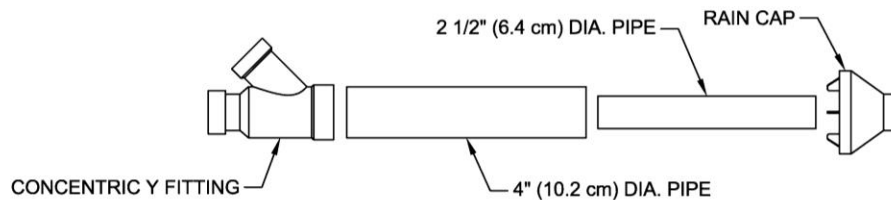
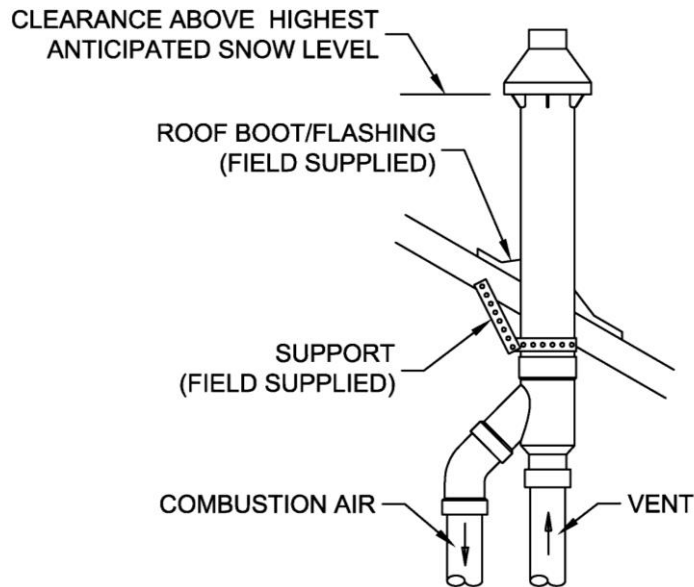

Figure 18. Concentric Vent Kit Part Identification
Figure 20. Concentric Vent Roof Top Attachment
- a. Cement concentric Y fitting to larger diameter pipe. (See Figure 18).
6. Secure assembly to roof structure as shown in Figure 20 using field-supplied metal strapping or equivalent support material.
Ensure termination height is above the roof surface or anticipated snow level. Figure 20.
8. Cement heater combustion-air and vent pipes to concentric y fitting assembly (Figure 18). See Figure 20 for proper pipe attachment.
- a. Cement Y concentric fitting to larger diameter kit pipe. (See Figure 18).